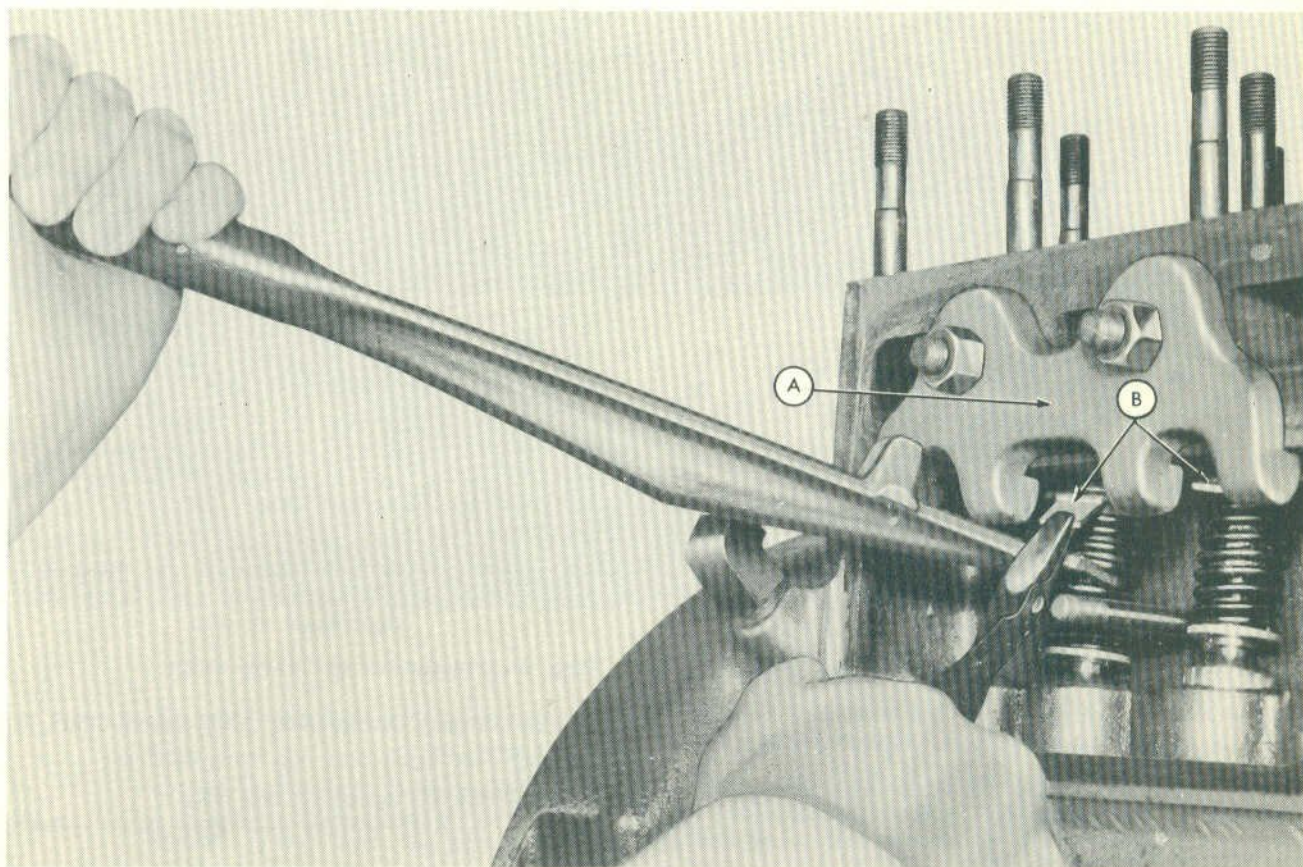

Fig. 2
- Step 3—Mount the valve tool accessory (A-Figure 2) on the block, using the manifold studs.
Step 5—Remove the valve guide retainers (B) as shown in Figure 2.